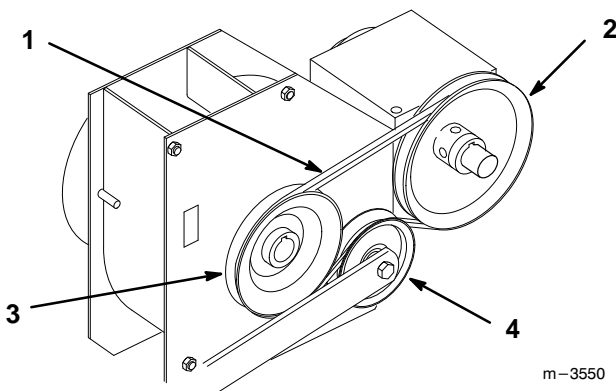

Figure 28
2. Push up on the spring loaded idler pulley behind PTO (power take off) gearbox to relax pressure on blower belt (Fig. 28). Lock into frame slot, refer to (Fig. 25).
4. Install new blower belt around PTO gearbox and blower pulleys. Then push up on the idler and place belt above idler pulley (Fig. 28).
5. Check that belt aligns with PTO, blower and idler pulleys (Fig. 28).